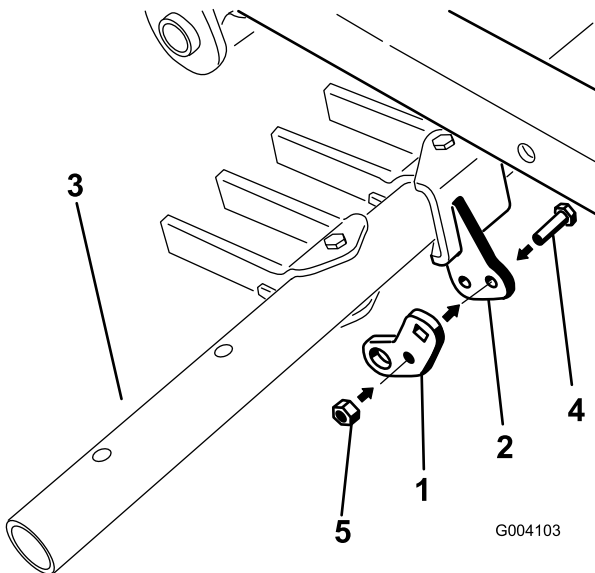

Figure 13
- Loosely install the center hole of the pivot tab to the pivot bracket on the toolbar using a bolt (5/16 x 1 inch) and locknut (5/16 inch) (Figure 13).
3. Torque the center pivot bolt (item 4 in Figure 13) to 175 to 225 inch-lb (20 to 25 N·m).